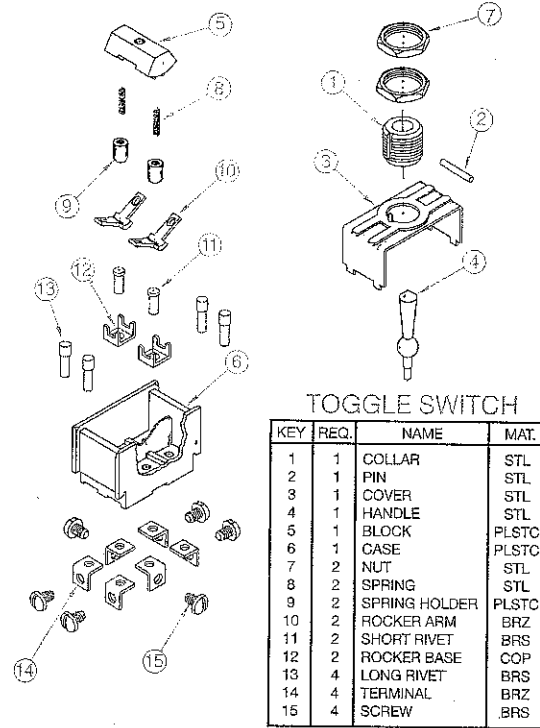

Figure 5-68: Exploded drawing.
- ▶ **Exploded drawings** show how the parts of an object fit together (see Figure 5-68).